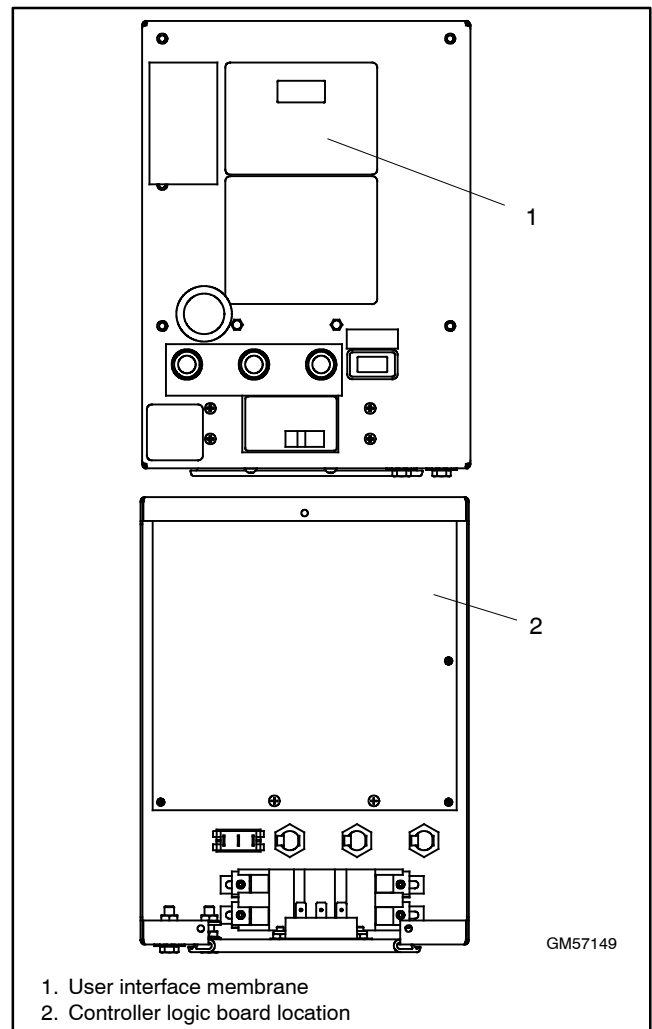

Figure 5-25 Controller
- Check that the replacement board is positioned so that the display shows through the opening in the cover plate and then press the board onto the standoffs. Check that all corners are securely mounted. See Figure 5-25.